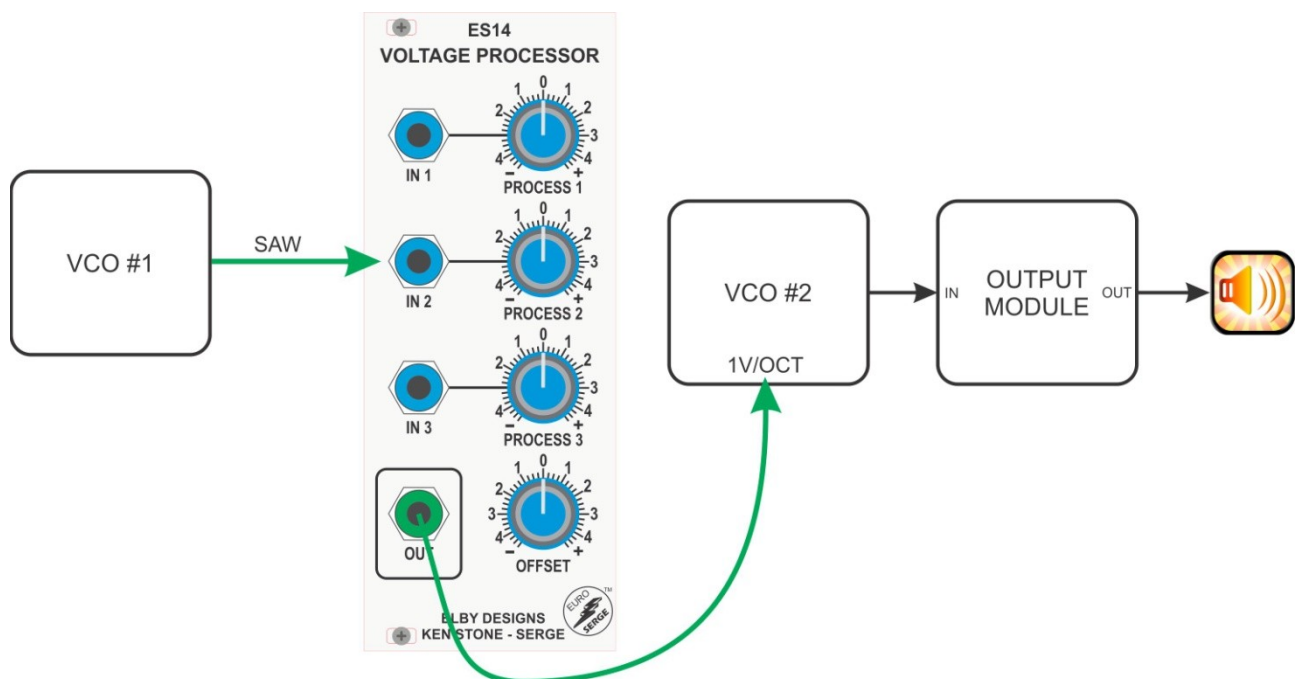
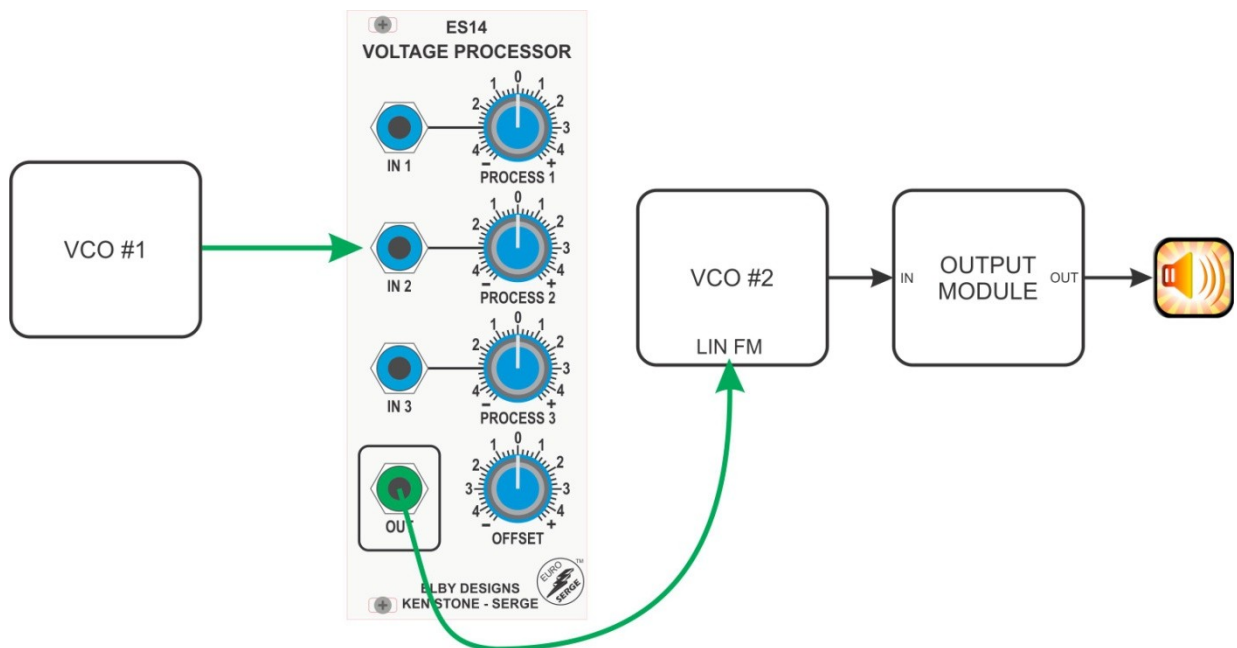

Figure 4.4.5
Figure 4.4.9
4.5 With the patch in Figure 4.4.5, an extremely wide range of sounds is possible with different combinations of the PITCH and [PROCESS x] pots. This range can be extended even further by using different waveforms.
In the patch in Figure 4.4.5, if both VCOs are set to audio frequencies, very interesting shifts in timbre occur when the Processing Pot is turned to different positions. However, when the [LIN FM] input is used, as shown in Figure 4.4.9, there are also apparent pitch changes.